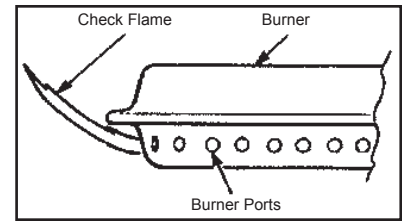

Fig. 9
9. All the ports on the burner should show a 2.5cm flame on "Hi" setting. (Fig. 9)